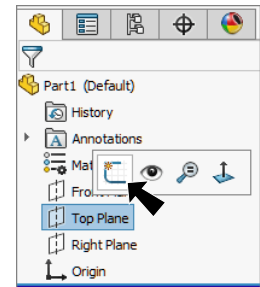
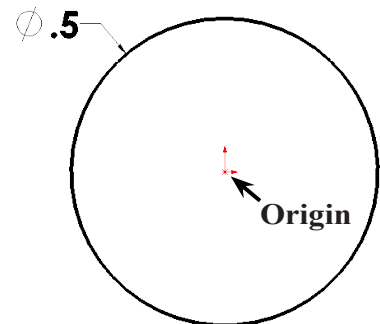

Fig. 1
Fig. 2
Step 2. Click **Top Plane**  in the Feature Manager and click **Sketch**  on the context toolbar, **Fig. 1**.
Step 3. Click **Circle**  (S) on the Sketch toolbar.
Step 4. Sketch a circle starting at the Origin , **Fig. 2**.
Step 5. Click **Smart Dimension**  (S) on the Sketch toolbar.
Step 6. Dimension circle **diameter .5**, **Fig. 2**.